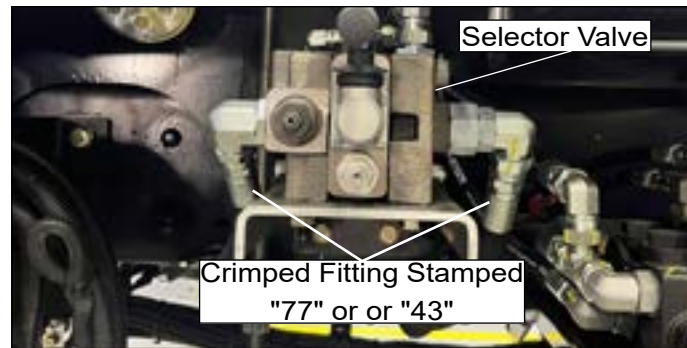

Figure 5 — Hoses Connected to Selector Valve
4. Inspect the fittings on the ends of both hoses (refer to Figure 5).